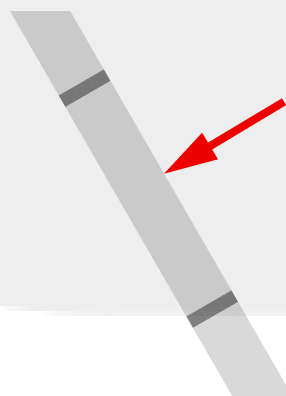

Figure 5-2 Normal oil level (cold engine) on the dipstick
2. Remove the dipstick, wipe it clean and reinstall it. Take the dipstick out again, and check the oil level. As shown in Figure 5-2, the oil level should be maintained at **halfway** between the UPPER and LOWER marks on the dipstick.